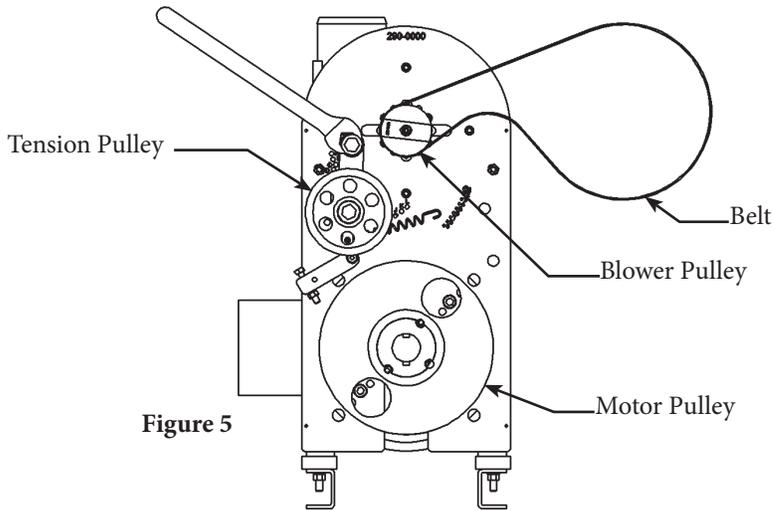

Figure 5
Using a 1 inch (25.4 mm) open-end wrench, rotate the Tension Arm Assembly clockwise (CW). Wrap the new or replacement Belt around the Blower Pulley and then onto the Motor Pulley as shown in **Figures 5 and 6**. Once the Belt is in place and the wrench is removed, verify that the Belt is seated into all the grooves on both pulleys by manually rotating the Motor Pulley (large pulley), and checking the alignment of the Belt on the groves.